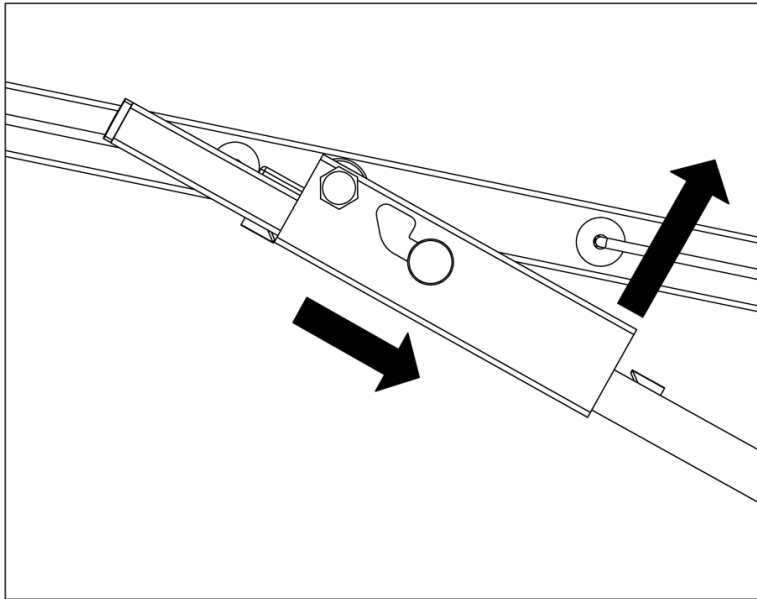

Fig 12. Catch rotating allowing catch slider to drop.
- The catch will grab onto the lower protrusion and rotate upwards, allowing the catch slider to slide down the slot. (Fig 12)